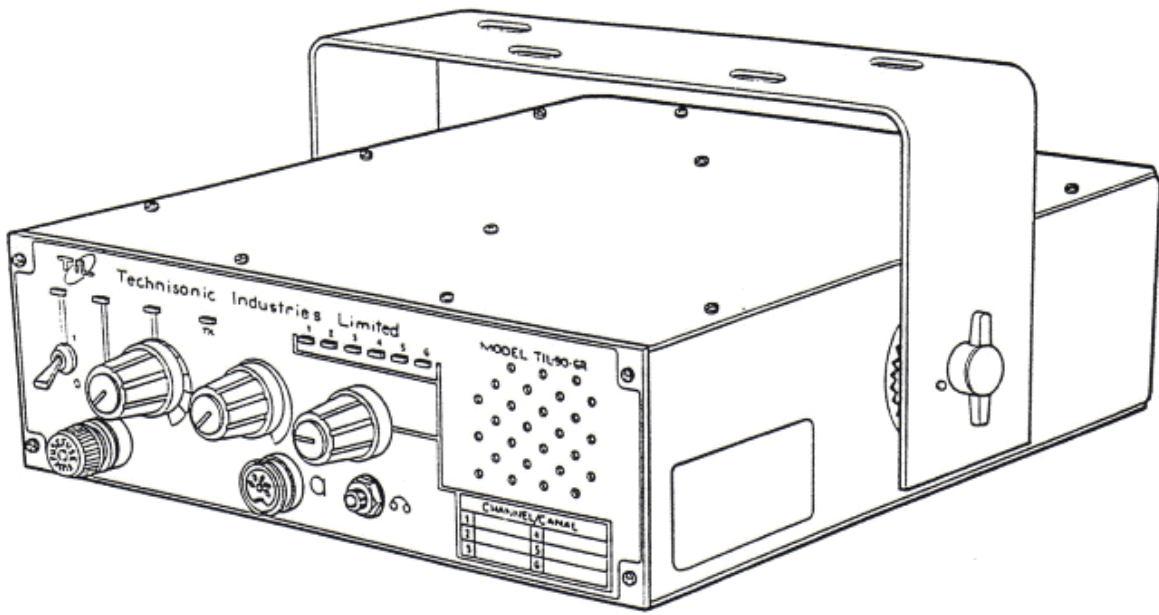

Figure 1.2 Transceiver with Mounting Bracket - General View
- (b) Mounting Bracket, Part Number 913053-1, is a U-shaped aluminum alloy bracket which, together with items of hardware included in Mounting Hardware Kit P/N 869024-1, is used to mount the transceiver under the dashboard of a vehicle. A view of the transceiver with mounting bracket is given in Figure 1.2.